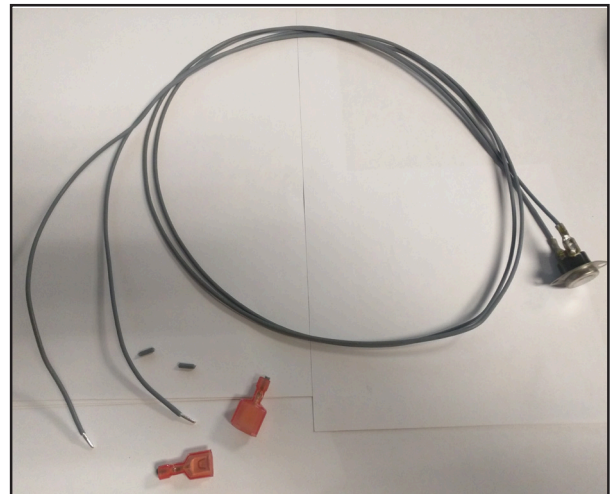

Figure 39: Spill Switch Modification
Step 1: Cut off the connectors from the one end of the wires. Note, the spill switch does not need to be removed from the Draft Hood Adaptor for this modification (Figure 39).